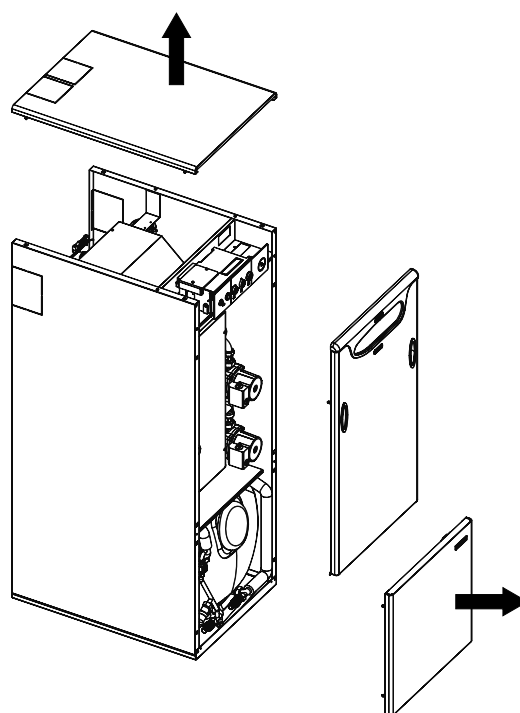

fig. 10
To open the front panel, see the procedure given in fig. 10.
- Remove the boiler front panel (fig. 10).